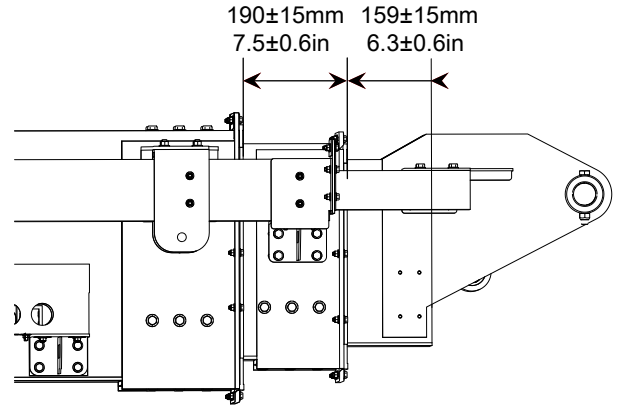

Figure 6-9
- The boom is positioned in the chassis drive direction, and the turntable lock pin is secured, as shown in Fig 6-9, page 6-6.